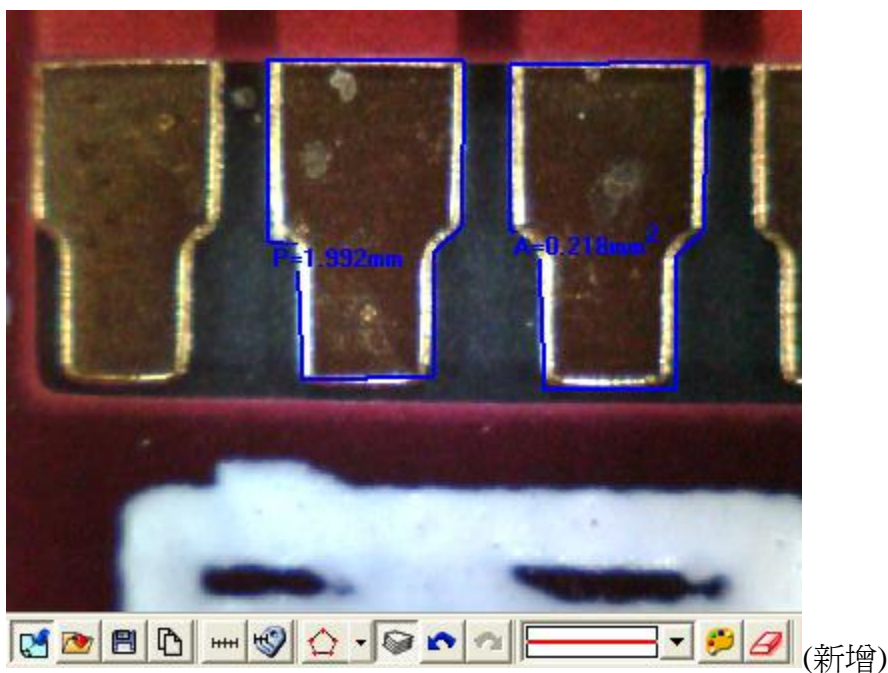

Fig 5-73 Polygon (新增)
(10) Polygon : A polygon is a shape that is made up of many sides and has only line segments. Choose “” to measure the area and Perimeter, See Fig 5-73, the calculated polygon P (Perimeter) is 1.992mm, A(Area) is 0.218 mm² .